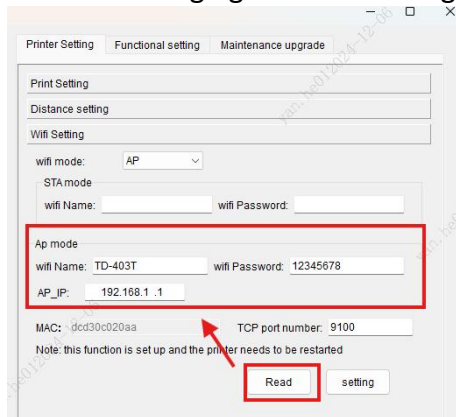

Fig.25
① In the WiFi setting interface, click **[Read]**, the WiFi mode column will display AP, and obtain the AP_IP address; users can freely change the WiFi name, password, and IP address. After making changes, click **[setting]**, and upon a successful prompt, restart the printer to complete the changes (shown in Fig.25 and 26).